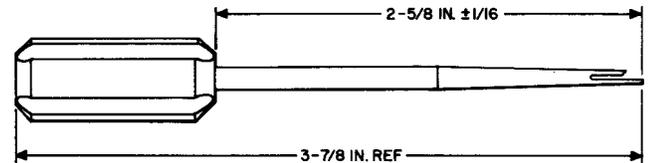

Fig. 10—671A Adjuster Tool
2.11 **671A:** The 671A tool (Fig. 10) is an adjuster used in applying magnetic separators to the Y-type relays. It replaces the D-167912 adjuster.